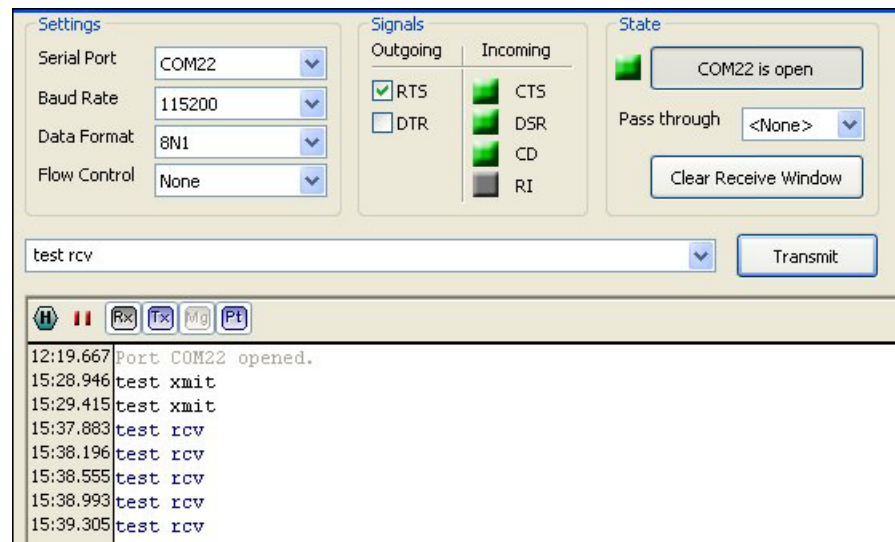

Figure 41
7. Once the terminal emulator is connected, type some test messages and send them to the terminal. Do the same on the terminal to ensure that the terminal can both send and receive messages over the Bluetooth serial port. Figure 41 shows an example session from a terminal emulation program running on a PC’s Bluetooth serial port (COM22).